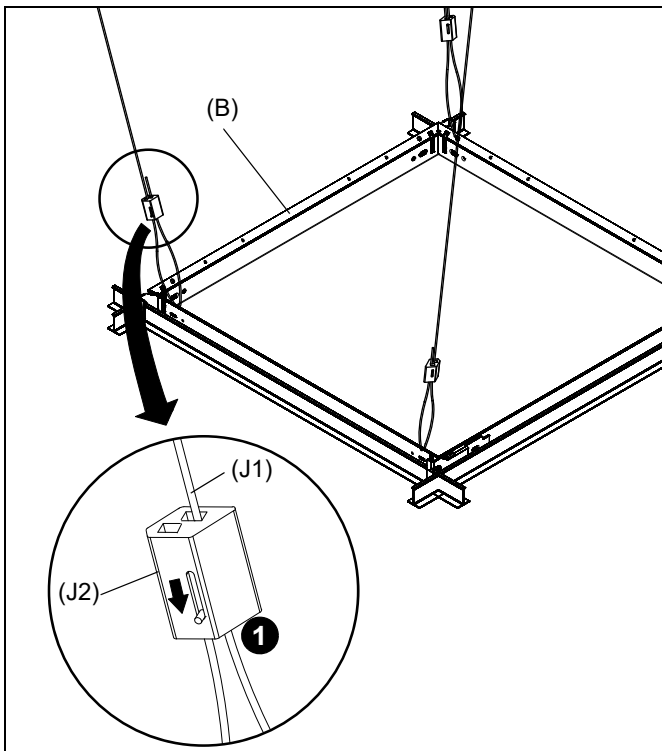

Figure 8
1. Thread each cable (J1) completely through cable lock (J2), corresponding hole in corner of SL220 frame (B), and completely through opposite side of cable lock (J2) (See Figure 8).
2. Adjust cable tension until SL220 frame (B) is supported *entirely and evenly* by all four support cables, but not so tight as to distort ceiling tile framework.